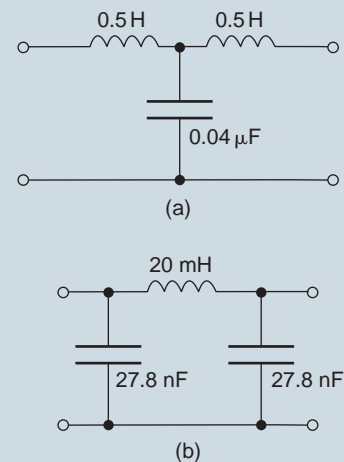

Figure 19.11
1. Determine the cut-off frequency and the nominal impedance of each of the low-pass filter sections shown in Fig. 19.11.